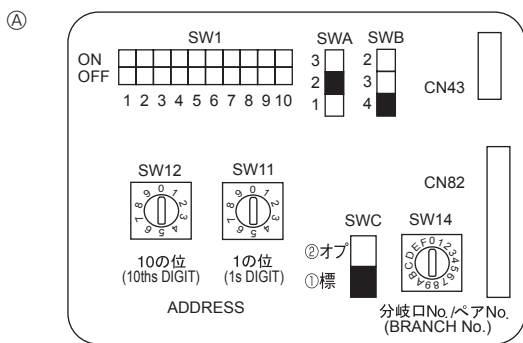

Fig. 4-4
4.6. Switch setting for high ceiling or at the time of changing the number of air outlets (Fig. 4-4)
③ Wireless remote controller (When installing wireless signal receiver)
④ Terminal block for indoor transmission cable
⑤ Terminal block for outdoor transmission cable (M1(A), M2(B), ④(S))
⑥ Remote controller
⑦ Wireless signal receiver
⑧ Wireless remote controller
4.5. Setting addresses (Fig. 4-4)
④ 4 direction	2.7 m	3.2 m	4.5 m
③ 3 direction	3.0 m	3.6 m	4.5 m
② 2 direction	3.3 m	4.0 m	4.5 m
4.7. Sensing room temperature with the built-in sensor in a remote controller (Fig. 4-4)